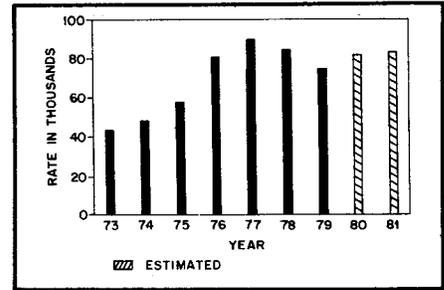

Fig. 1 — Interference complaints received by the FCC, 1973-1981. The peak centered on 1977 was caused by the CB boom.
1) With the rapid growth in the electronics industry, the probability of a home entertainment device being located near an rf source has increased markedly. Fig. 1 shows a peak in complaints during 1977. That was caused by the CB boom. Although the boom is now history, CB activity continues. There were 11 million licensed CB operators as of August 1981. In addition to FCC-licensed transmitters, other potential sources of radio frequency energy are power tools, home appliances, lighting equipment and microcomputers. The chances are very great that you have one or more sources of rf near you right now.
Fortunately, many responsible manufacturers are willing to supply filters for reducing television interference when such cases are brought to their attention. A simple letter to the manufacturer involved, stating the relevant facts on the interference problem, is often all that is required to obtain the necessary high-pass filter. For those who wish to purchase their own, a list of manufacturers can be found in Table 2. In the case of interference to other types of equipment, also write to the manufacturer or to the Electronics Industries Association (EIA). Clear presentations of the facts, plus polite requests for help, will be much more effective in obtaining a manufacturer's assistance than will angry letters of complaint. An example of a letter requesting help is shown in Fig. 1. For information about addresses of manufacturers and the EIA, see the section entitled, "Where Can You Get